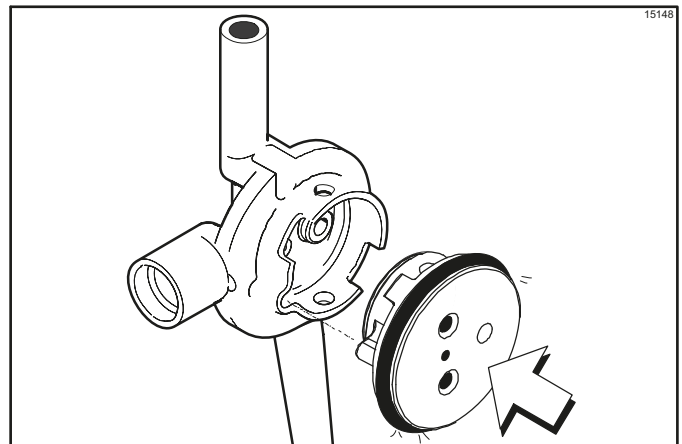

Figure 6-26
7. Insert the valve body cap into the hole in the mix inlet adapter. (See Figure 6-26.)